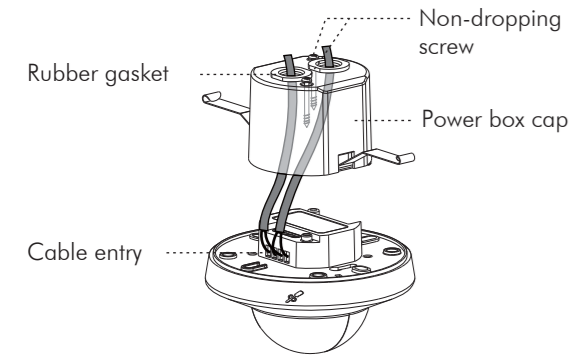

FIG.10
3.4.2.2 Use screwdriver to break the rubber gasket on Power box cap, then feed cables through it (See FIG.10).